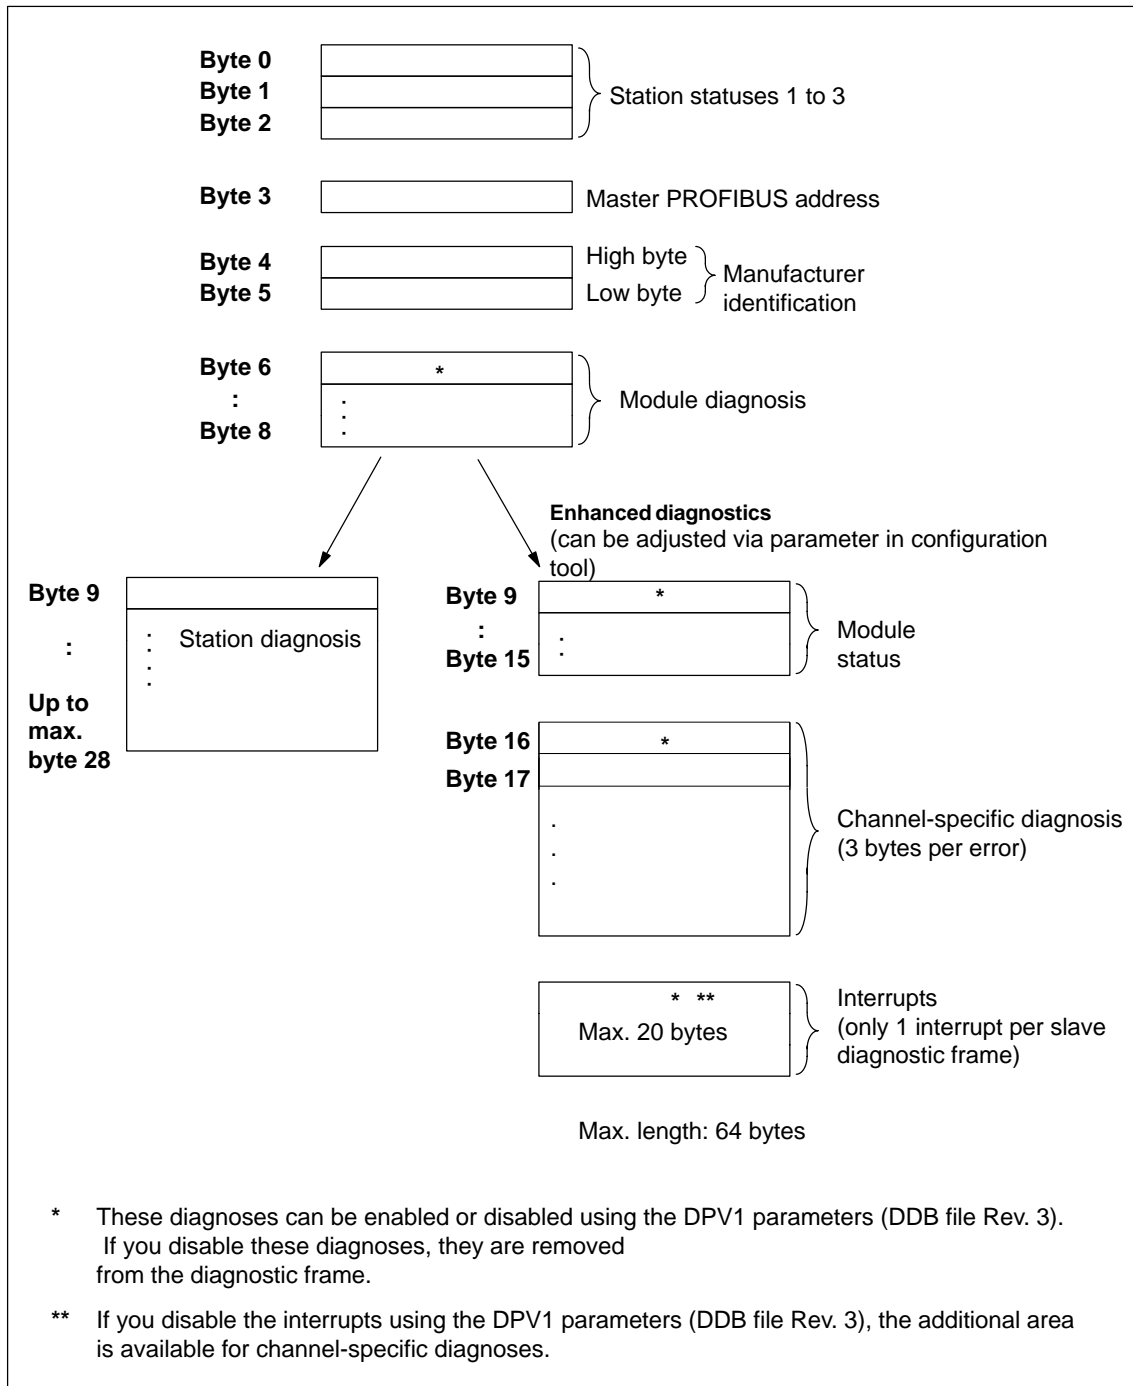

Figure 5-8 Structure of the slave diagnosis, ET 200X
**Tip:** If you disable the interrupts for the ET 200M during parameter assignment, there are still up to 20 additional bytes available in the interrupt section for the channel-specific diagnosis (see also Figure 5-8).